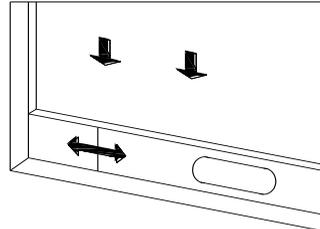

fig3
- A) Open the window slightly and position the window kit horizontally or vertically as shown in Figure 2 and Fig3.